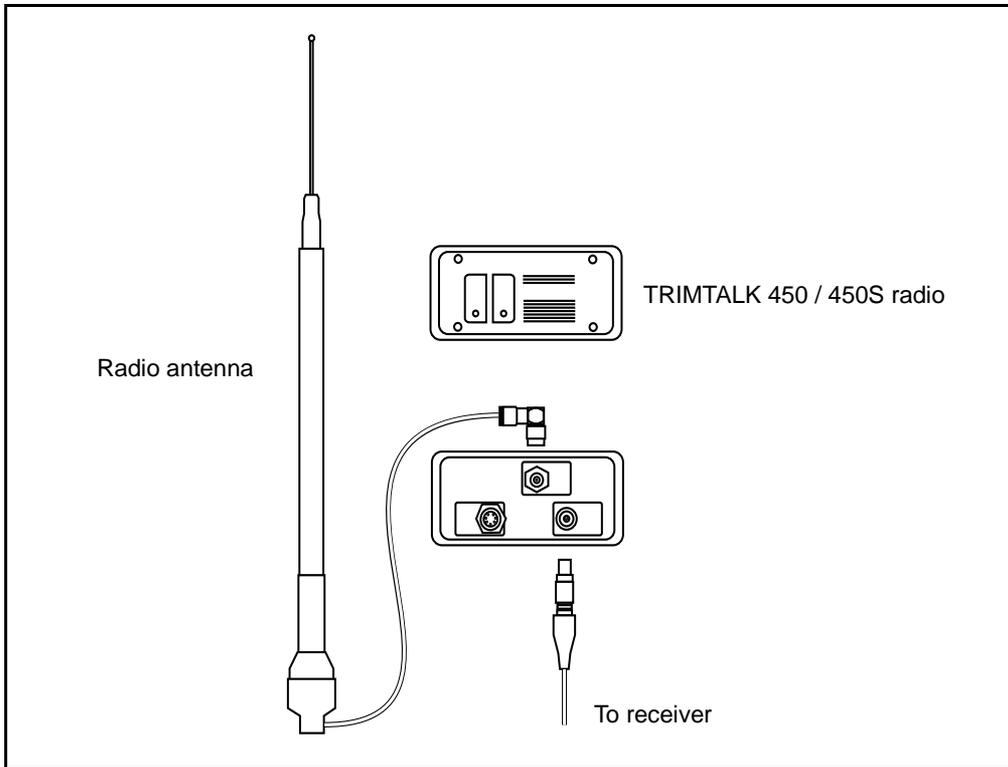

Figure D.2 Trimble radio connection
4. Connect the radio antenna to the radio using the cable attached to the antenna (see Figure D.2).
Figure D.2 shows a Trimble radio connected to a radio antenna.
3. Connect the radio antenna to the radio using the cable attached to the antenna (see Figure D.2).
3. Assemble the radio antenna and fix it to the outside of the backpack. Connect the radio antenna to the radio using the cable attached to the antenna. See Figure D.2 on page 605.
2. Connect the radio antenna to the radio using the cable attached to the antenna. See Figure D.2 on page 605.